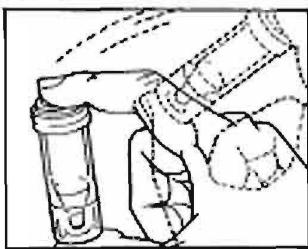

Figure 22. Mixing Stain and Sediment.
- c. Recap. Place index finger on cap and thumb on bottom of tube. SHAKE VIGOROUSLY 4 to 6 times to insure thorough mixing. Terminate shaking with tube in an upright position (Figure 22). As an alternate procedure, flick bottom of tube with fingernail or against edge of table to obtain thorough mixing. **PROCEED TO STEP (d) WITHOUT DELAY.**